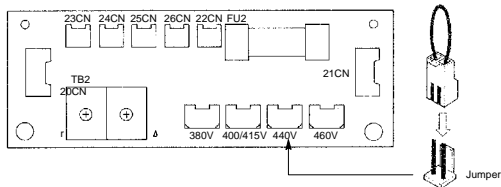

Fig 5.1 Setting the Power Supply Voltage (Illustration Above is for 400 V Class Inverter between 18.5 kW and 45 kW)
3. Insert the jumper at the position for the voltage supplied to the Inverter (see Figure 5.1).